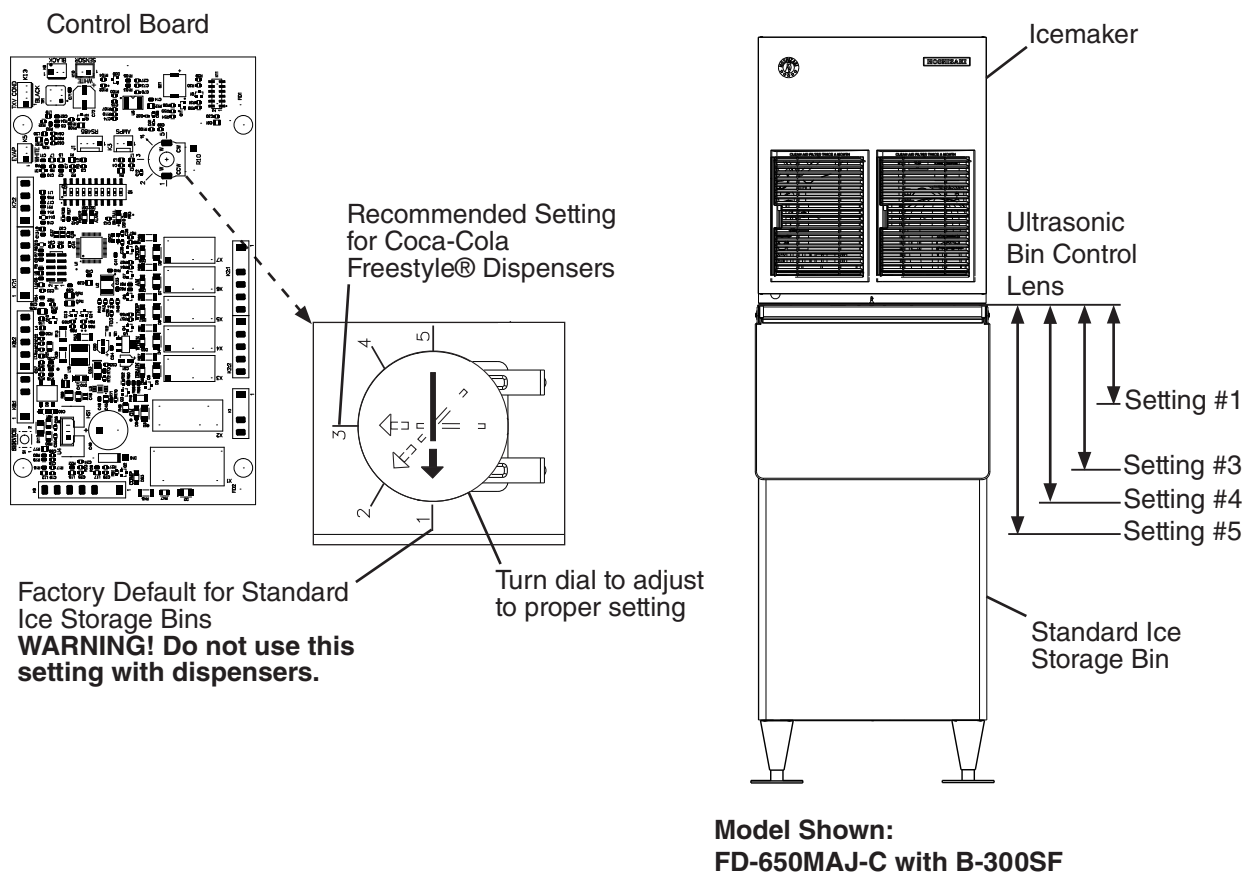
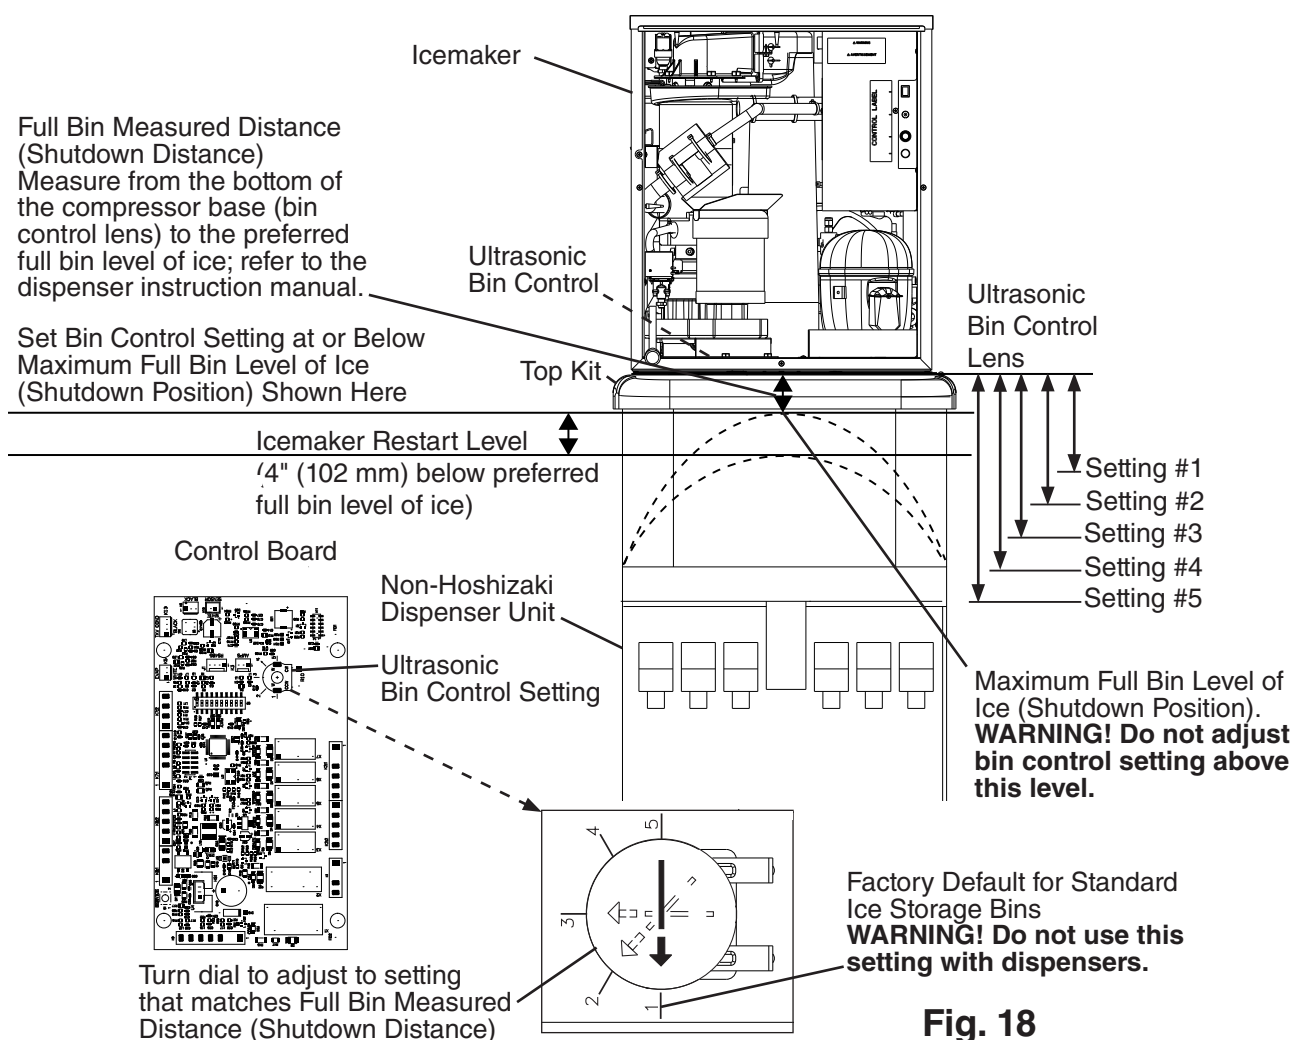

Fig. 17
Fig. 18
- 2) Confirm the correct control board bin control setting required for your application and adjust according to the following tables. See Fig. 17 and Fig. 18.